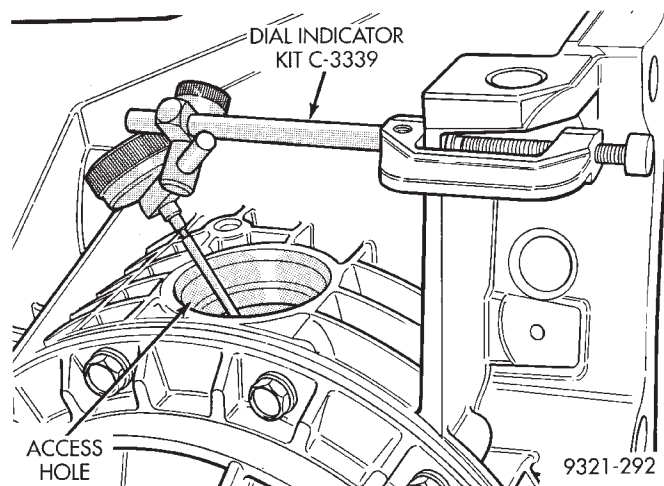

Fig. 341 Dial Indicator Installation
(56) To check and/or adjust backlash, remove the inspection plug from the top of the differential. Install dial indicator as shown in (Fig. 341). The tip of the dial indicator must be perpendicular against one of the ring gear teeth. Hold transfer shaft with locking pliers. Move ring gear back and forth with special tool 6548. Read the amount of backlash with dial indicator. Backlash should be 0.006" to 0.009" thousands of an inch.
(57) If there is too much backlash, loosen the outer adjuster with special tool 6503. Then turn the inner adjuster so that it **moves away from the ring gear**. After adjusting the inner adjuster, retighten the outer adjuster to the torque recorded in Step 30. The inner adjuster should be turned in small increments.
(58) If there is not enough backlash, loosen the outer adjuster with special tool 6503. Then turn the inner adjuster so that it **moves towards the ring gear**. After adjusting the inner adjuster, retighten the outer adjuster to the torque recorded in Step 30. The inner adjuster should be turned in small increments.